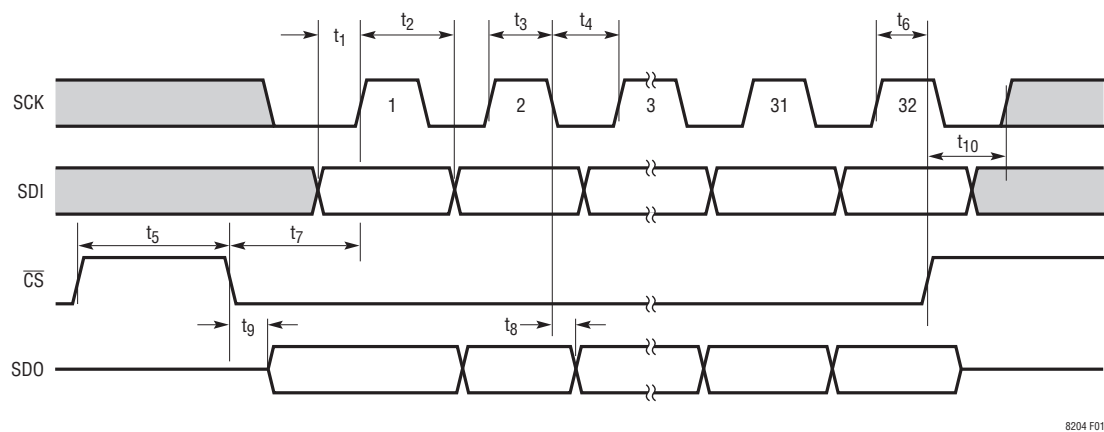

Figure 1. SPI Timing Diagram
**$\overline{CS}$  (Pin 33):** SPI Chip Select Pin. The  $\overline{CS}$  pin is the chip select input for the SPI digital communication between the host microprocessor and the LT8204. When  $\overline{CS}$  is active low, SCK is enabled, and the selected LT8204 is allowed to receive and transmit data across a shared SPI communication bus. When  $\overline{CS}$  is high, SCK is disabled, and the specified command (See Figure 1) is executed.